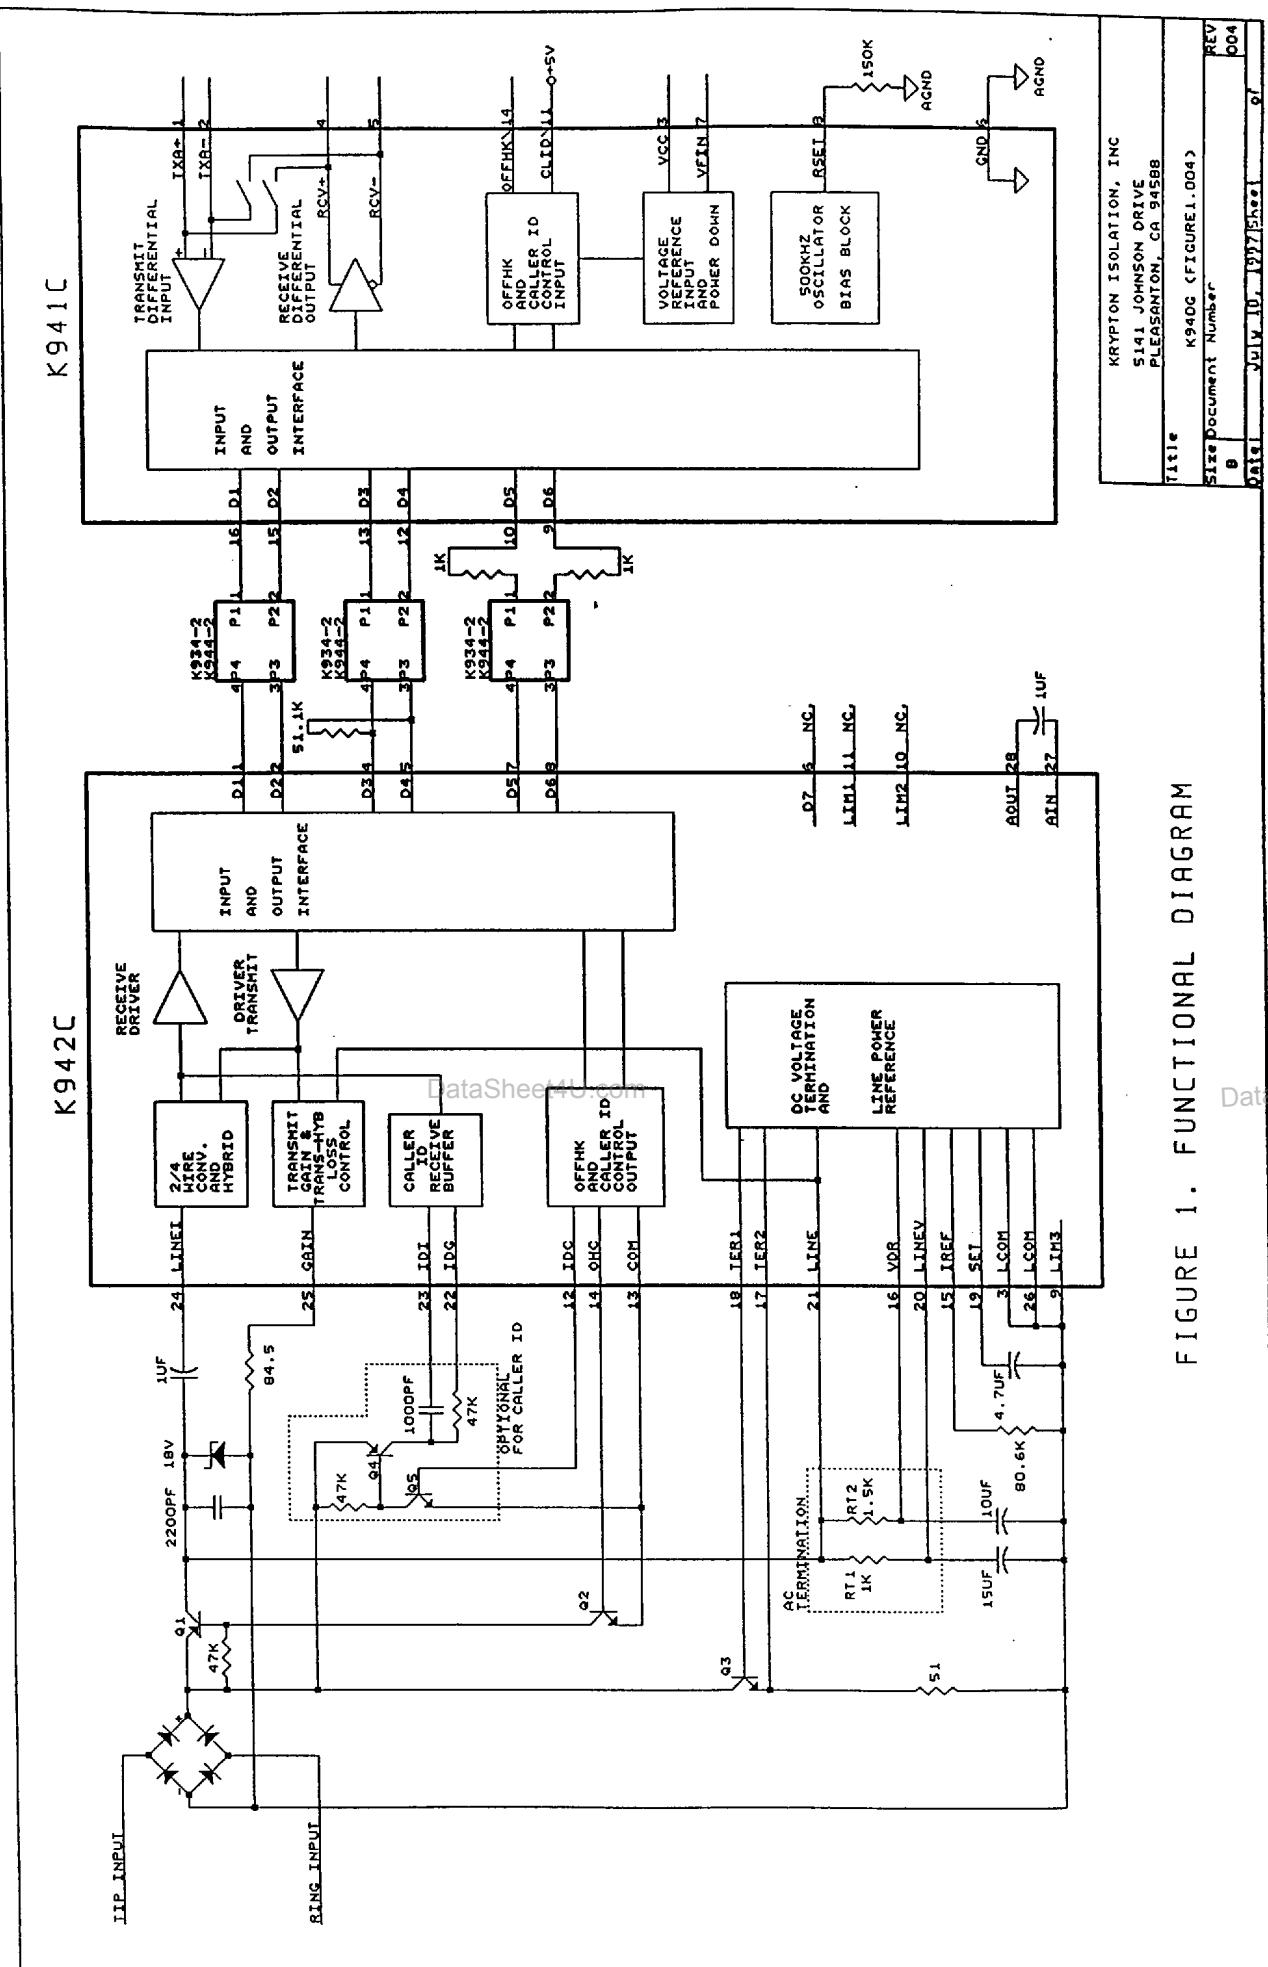

FIGURE 1. FUNCTIONAL DIAGRAM
4. Delete C4/0.1uF & C11/10uF from figure 1 to figure 17 from rev.003.
5. Delete R17/56.2K from figure 1 to figure 16 from rev.003.